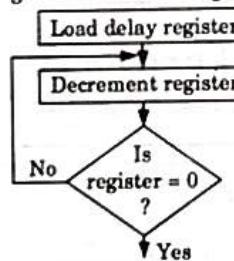

Fig. 2.16.2. Time delay loop flow diagram.
3. The flowchart in Fig. 2.16.2 shows the generation of time delay.